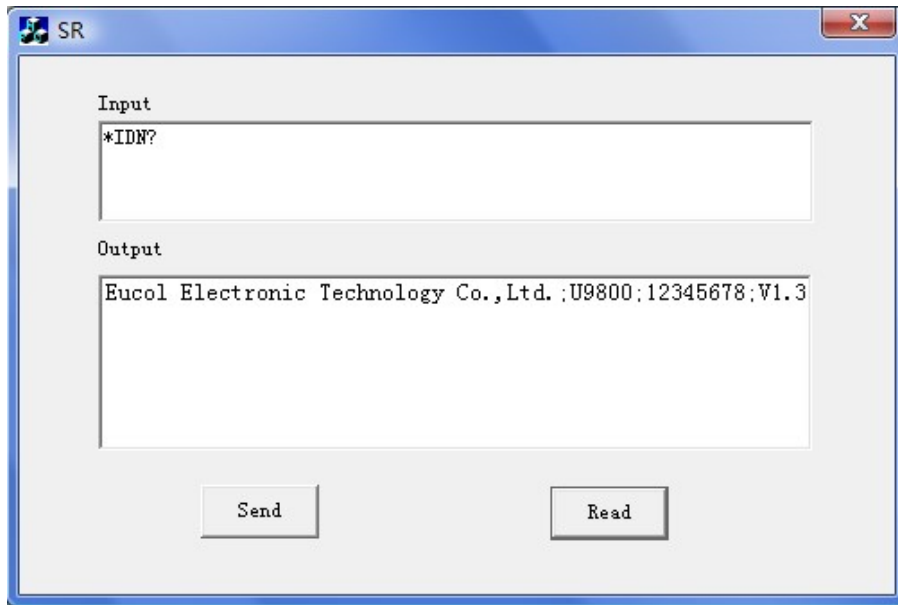

Figure 4-1-7
7. Save, build and run the project, you will get an EXE file. When the oscilloscope has been successfully connected with PC, input a command such as \*IDN? (the default input command) in Input edit box and click Send and Read successively, the oscilloscope will return the result which will be displayed in Output edit box. See figure 4-1-7.